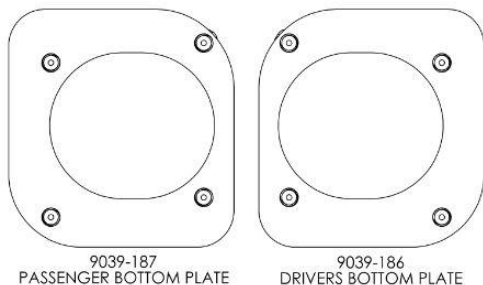

Figure 1
12. Identify the driver's side and passenger's side bottom plates. See (**Figure 1**)